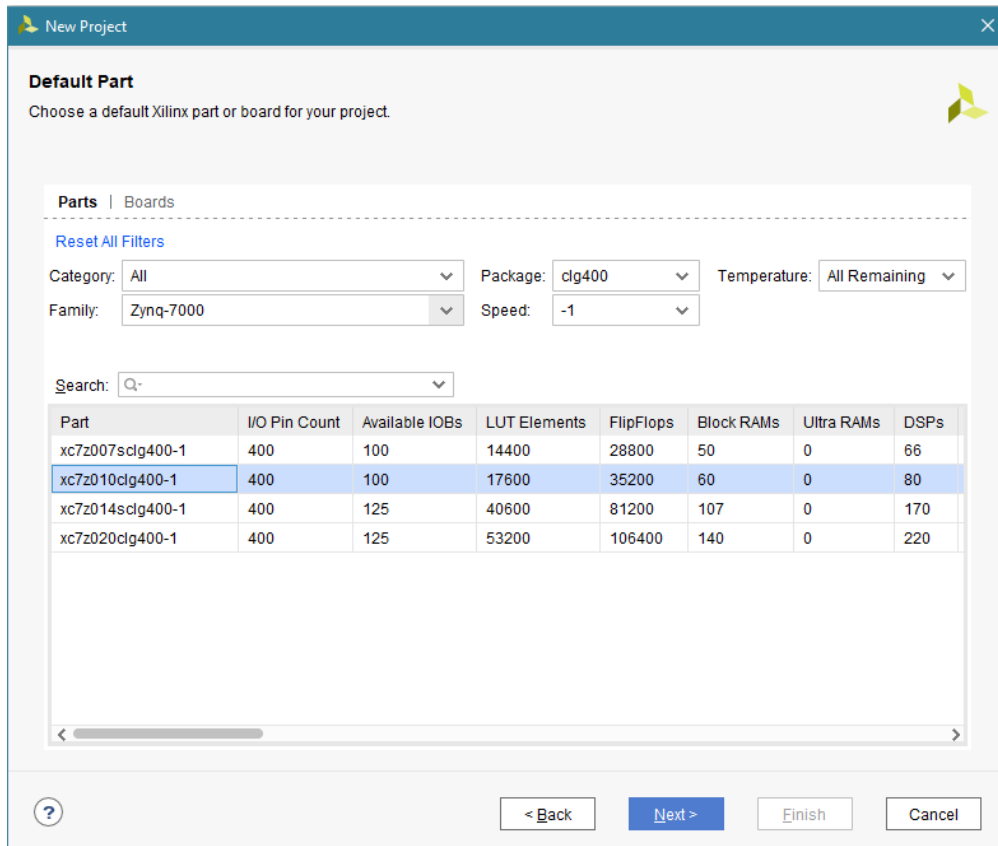

Figure 3: Device Properties
- (b) Next, the 'Default Part' window appears (Figure 3). We can select our hardware from the 'Parts' tab or from the 'Boards' tab. The 'Parts' tab lists Xilinx supported Parts(FPGAs) and the 'Boards' tab lists the supported boards. The ZYBO Z7-10 (Zynq Board) is an entry-level digital circuit development platform built around the Xilinx Zynq-7000 family, the Z-7010. The Z-7010 is based on the Xilinx All Programmable System-on-Chip (AP SoC) architecture, which integrates a dual-core ARM Cortex-A9 processor with a Xilinx 7-series Field Programmable Gate Array (FPGA) logic. In this lab and the next we will select the hardware from the 'Parts' tab and in the later labs we will select the hardware using the 'Boards' tab. Select the hardware using the following parameters.